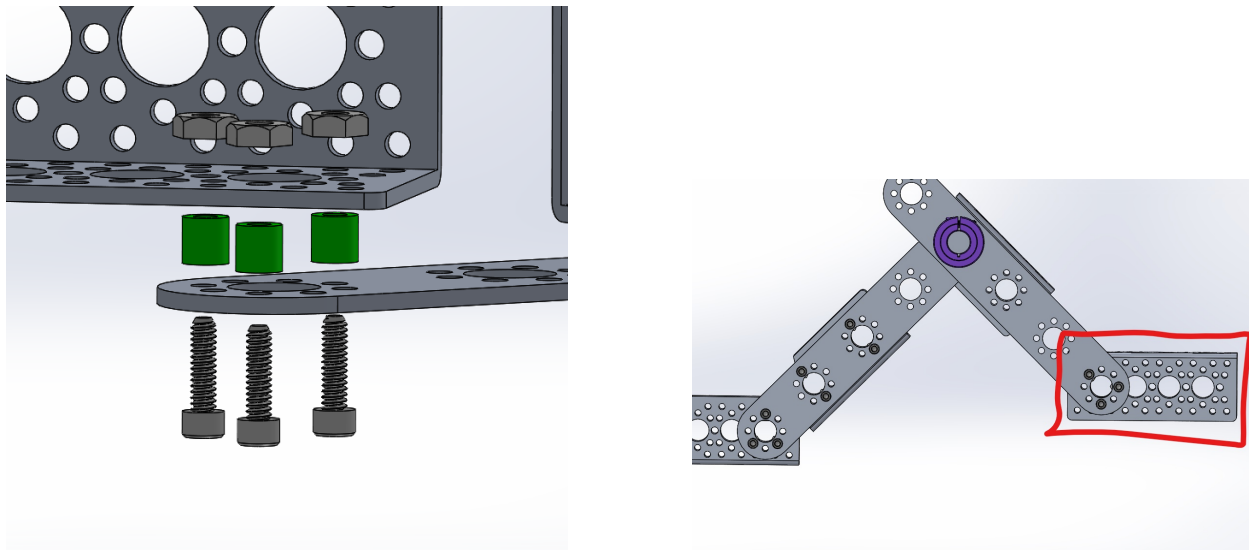

Figure 5: Attaching channel to corner steering
3. **Attachment for Front Corner:** Attach 3.75 inch channel **S3** to the top hole of the pattern F bracket using spacers **T1**, screws **B3**, and hex nuts **B11** as shown in Figure 5.